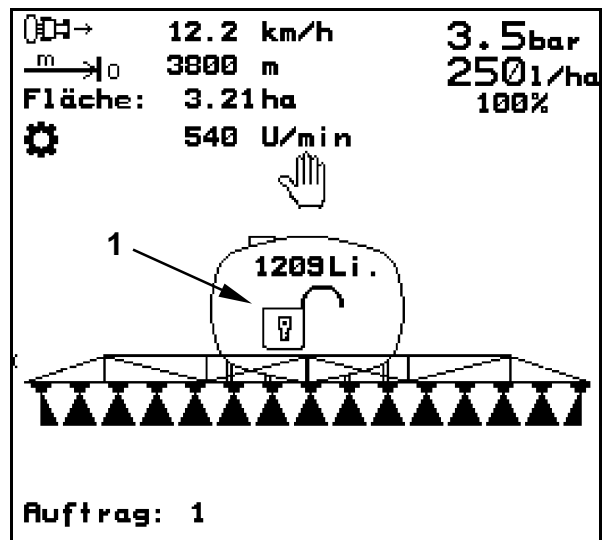

Fig. 108
- The swing compensation is unlocked (Fig. 107/1), when the display of **AMATRON+** shows the open lock symbol (Fig. 108/2).
When the swing compensation is unlocked the display of **AMATRON+** shows the open lock symbol (Fig. 108/1).